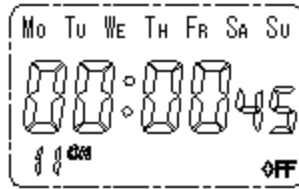

Figure5
4.1.2.1 After finish operation 4.1.1, press 'MD' to set the timing parameters, see Figure5.